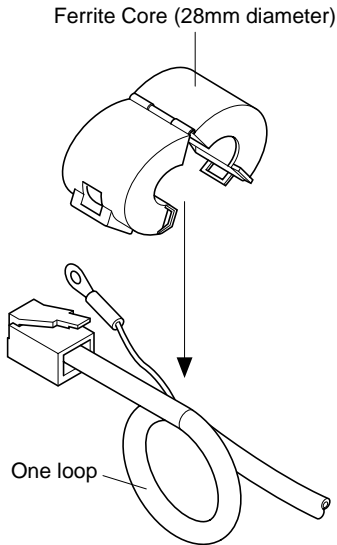

Fig. 3-2
- The ferrite core is normally packed so it is opened, as shown in Fig. 3-2. If you find that the ferrite core is not opened: Use a pointed object to pry the plastic lock of the ferrite core apart, as shown in Fig. 3-1. When opening it, take care not to damage the ferrite core or the plastic lock.
- Clamp the ferrite core onto the peripheral unit cable, looping the cable as shown in Fig. 3-2.